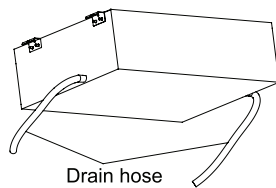
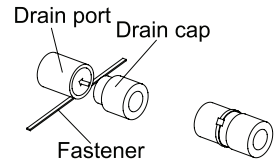

Fig.25
Fig.27
- (5). Use a suitable drain hose, and see Table 3 for its size.
- (6). There is a drain port on both the left and right sides. Select the drain port to match the local conditions.(Fig.25)
- (7). When the unit is shipped from the factory, the drain port is defaulted to be the one on the left side (electric box side), the port on right side has been plugged.
- (8). When using the drain port on the right side of the unit, reinstall the drain cap to the left side drain port.(Fig.27)